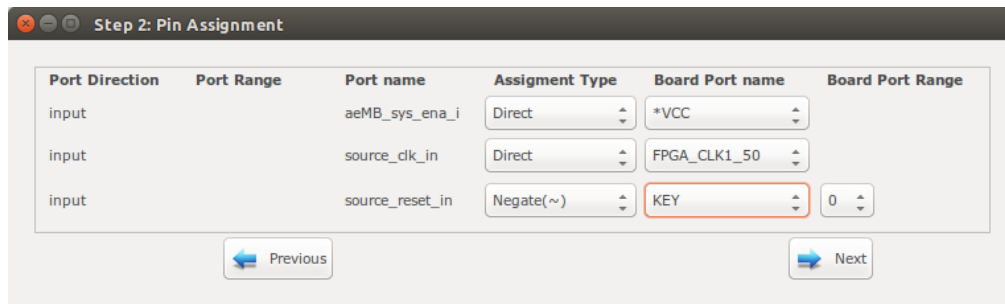

Figure 6.11: DE10-Nano FPGA board pin assignment.
- Follow instructions in Compile the generated RTL code using Quartus II software to compile and run the desired SoC on an FPGA board. For instance the pin assignment on DE10-Nano FPGA and a snapshot of a sample result on UART terminal is shown in Figures 6.11 and 6.12, respectively. You can test the GCD IP core by entering different values.